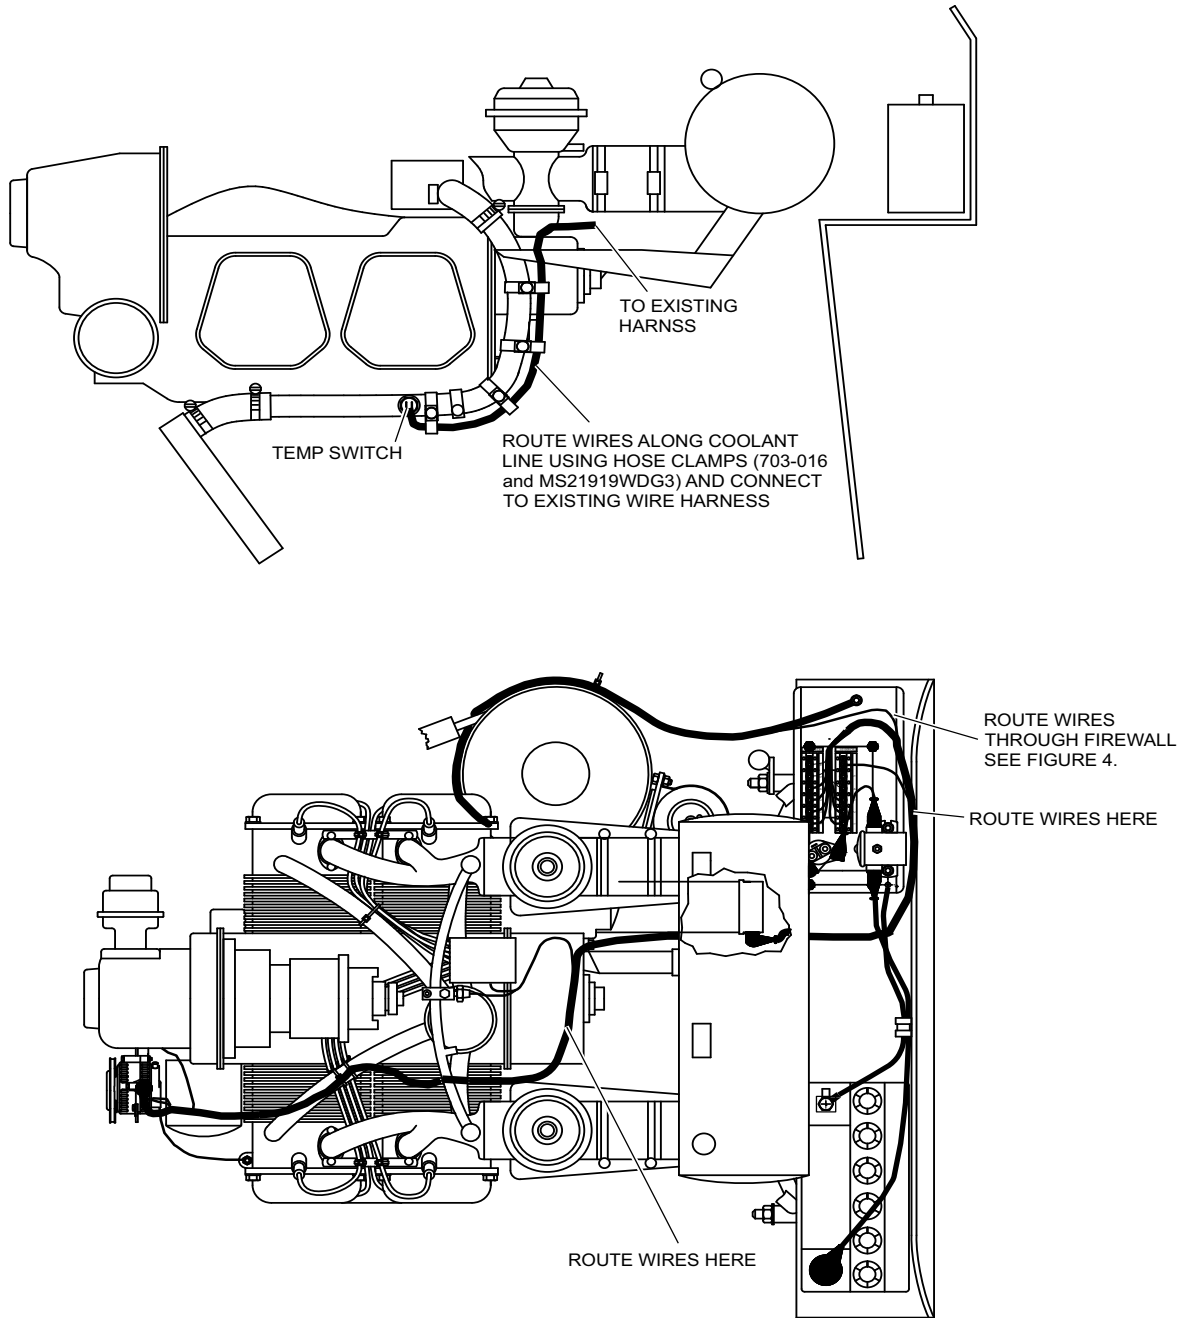

Figure 3 - Engine Wire Routing
10.3.4 Install the temperature switch. Use a high temperature thread sealer and torque the temperature switch to 3.5 in/lbs. See Figure 3.